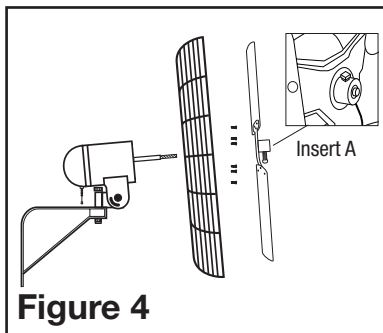

Figure 4
1. Install the rear grill onto the motor, lining up the six holes in the grill with the six threaded holes in the motor. Install (6) 10-32 x 5/16" hex screws through the rear grill into the motor. Securely tighten all (6) screws (**Figure 4**).
2. Push the fan blade onto the motor shaft, centering the hub facing away from the motor, until it stops against the shaft (**Inset A**). Align square head bolt with flat of the motor shaft. **TIGHTEN VERY SECURELY WITH AN ADJUSTABLE WRENCH.** Failure to securely tighten the bolt could result in damage to the fan and/or personal injury (**Figure 4**).